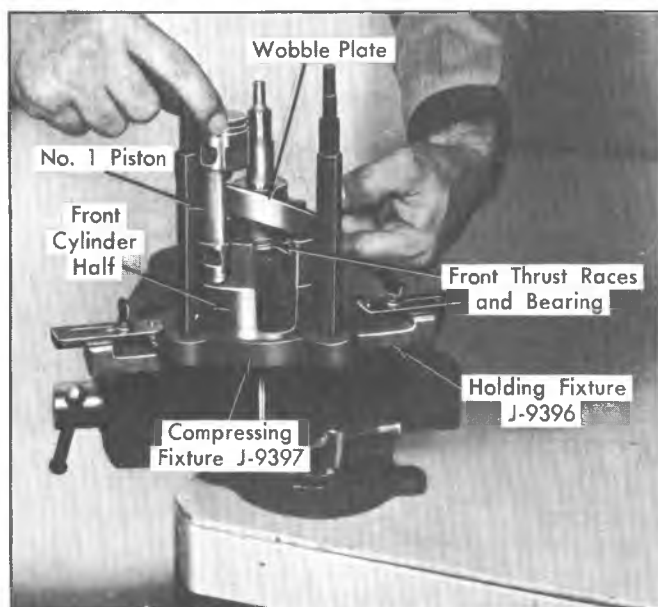

Fig. 21--Installing Piston, Front Ball and Seat and Rear Ball
8. Rotate the shaft and wobble plate until the high point of the wobble plate is directly over the cylinder bore previously designated as No. 1. Lift up slightly on the shaft and wobble plate assembly, insert the front (notched) end of the No. 1 piston into the cylinder bore, and at the same time, place the front ball and seat and the rear ball only over the wobble plate (fig. 21). Hold front thrust bearing pack tight against wobble plate hub while lifting shaft.